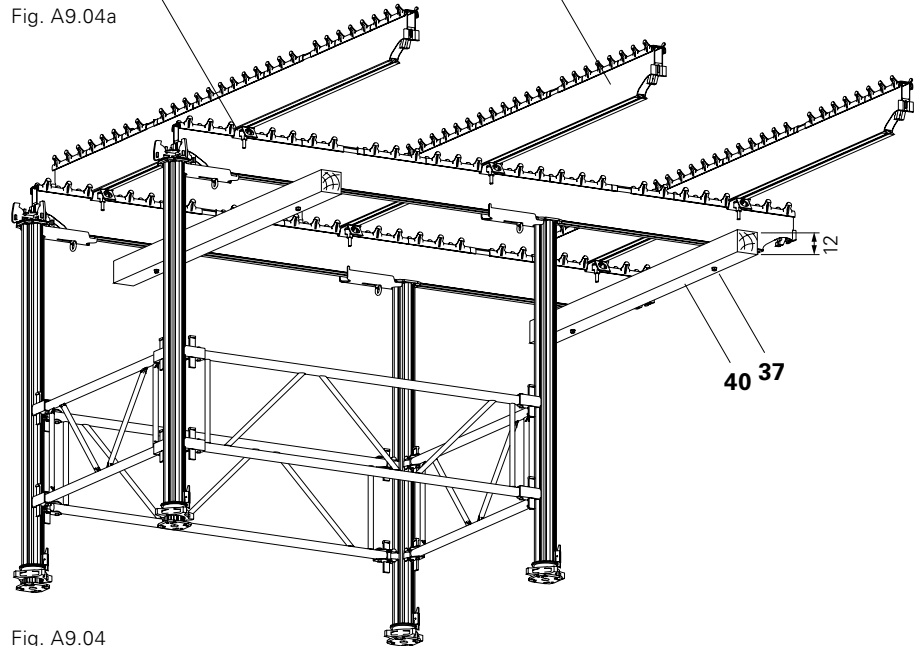

Fig. A9.04
1. Attach 2 timbers with min. 8/12/225 (40) (supplied by contractor) to the hex. bolts using nuts and washers. (Fig. A9.04)